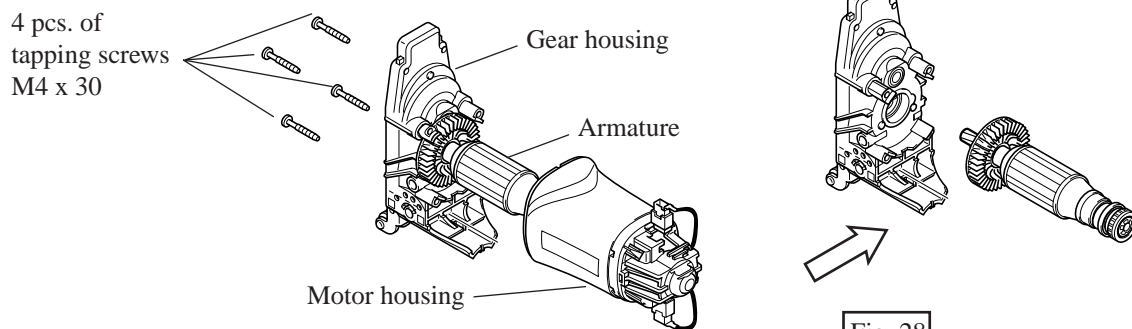

Fig. 28
3. Unscrew 4 pcs. of tapping screws M4 x 30, and separate gear housing from motor housing. Separate armature from gear housing as illustrated in Fig. 28.